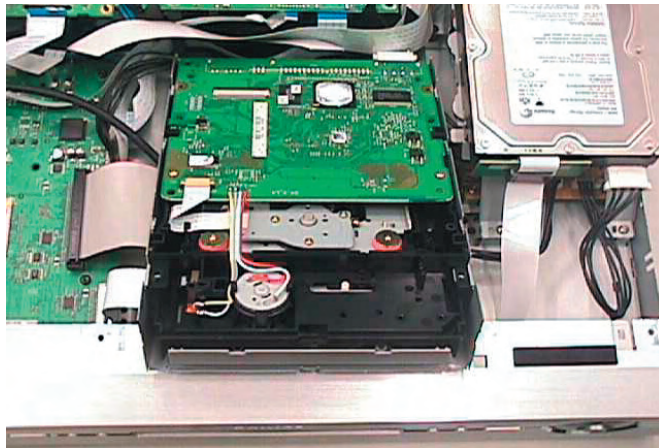

Figure 4-4: Basic Engine Service position
- 4) Remove 4 screws to loosen the Cover of the Basic Engine to reach Service position Figure 4-4.